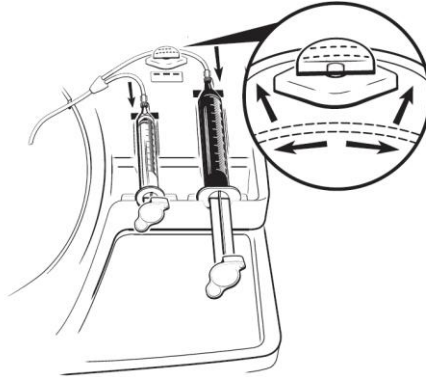

Figure 14. Stretch syringe 2 tubing and slide into pinch valve.
25. Gently stretch the tubing attached to syringe 2 and slide it completely into pinch valve opening (see Figure 14).